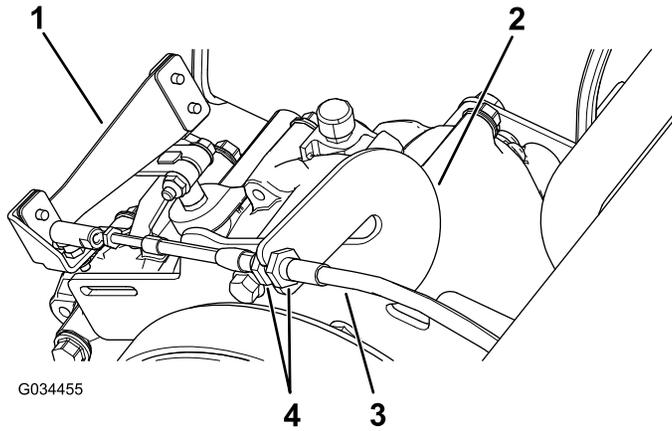

Figure 62
1. Loosen the jam nuts on the gear-shift cable and adjust them as necessary (Figure 62).
2. Test the gear-shift position by rotating the gear-shift selector to the 3 different positions and check to see if the shift lever (Figure 62) shifts properly when shifting the gears; refer to Gear-Shift Lever and Gear-Shift Indicator \(page 12\).